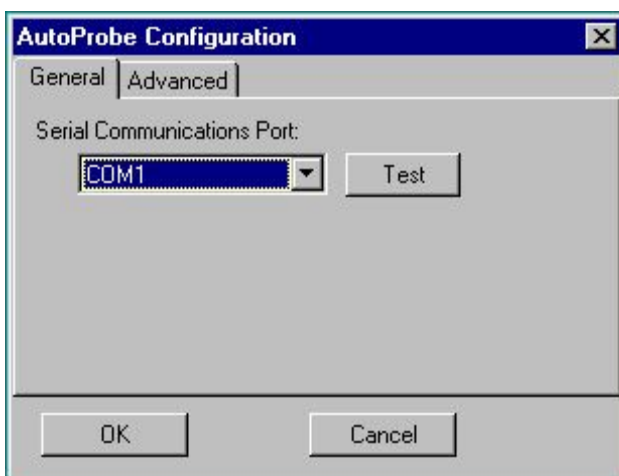
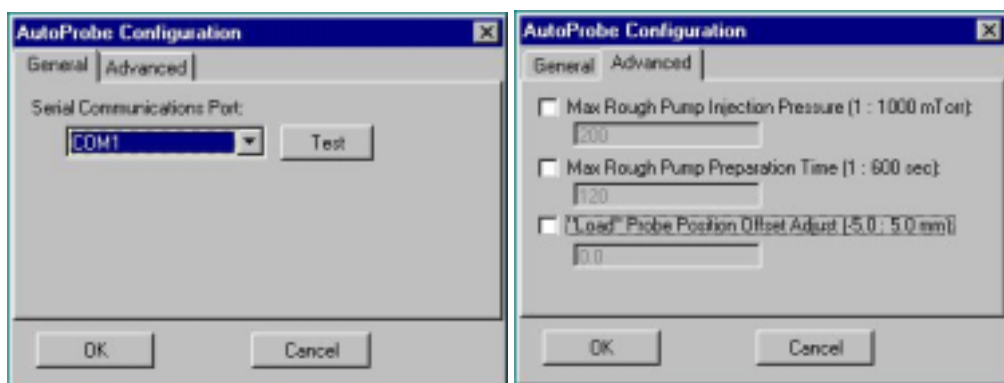

Figure 26 - AutoProbe Instrument Configuration Window
Figure 28 - AutoProbe Configuration Windows
- **SIS AutoProbe Software.** This software can run alone, for standalone control of the AutoProbe system, or it can attach to the Xcalibur Core, for integrated management of the AutoProbe system from Xcalibur. The SIS AutoProbe Software can be found on the SIS AutoProbe CD. This software must be installed after the Xcalibur Core software is installed. The default destination folder is “c:\Program Files\SIS\autoprobe”, but the author prefers “c:\xcalibur\autoprobe”. Accept the default for installing all components. At the end of the installation a dialog box pops up permitting you to configure the global AutoProbe settings (Figure 26). Specify the communications port on your computer to which the AutoProbe is connected to and click "Test" to verify the communication link to the AutoProbe System. You may need to press this button a second time for the entropy on the communications line to be cleared. You can safely ignore the advanced settings for now.
In the Xcalibur Instrument Setup window (Figure 26 and Figure 28), ensure that the SIS AutoProbe is installed in the right panel and double click the SIS AutoProbe button to configure it. This dialog was previously configured during the AutoProbe software installation, but it’s a good idea to double-check it now. It is important that the communications port is set correctly. The communications port is the serial port on our computer to which the AutoProbe is connected. It is necessarily different than the communications port that the PAL uses. You can test whether your choice of communications port is correct by clicking the “Test” button. You may need to press this button twice to clear out any entropy on the communications line.